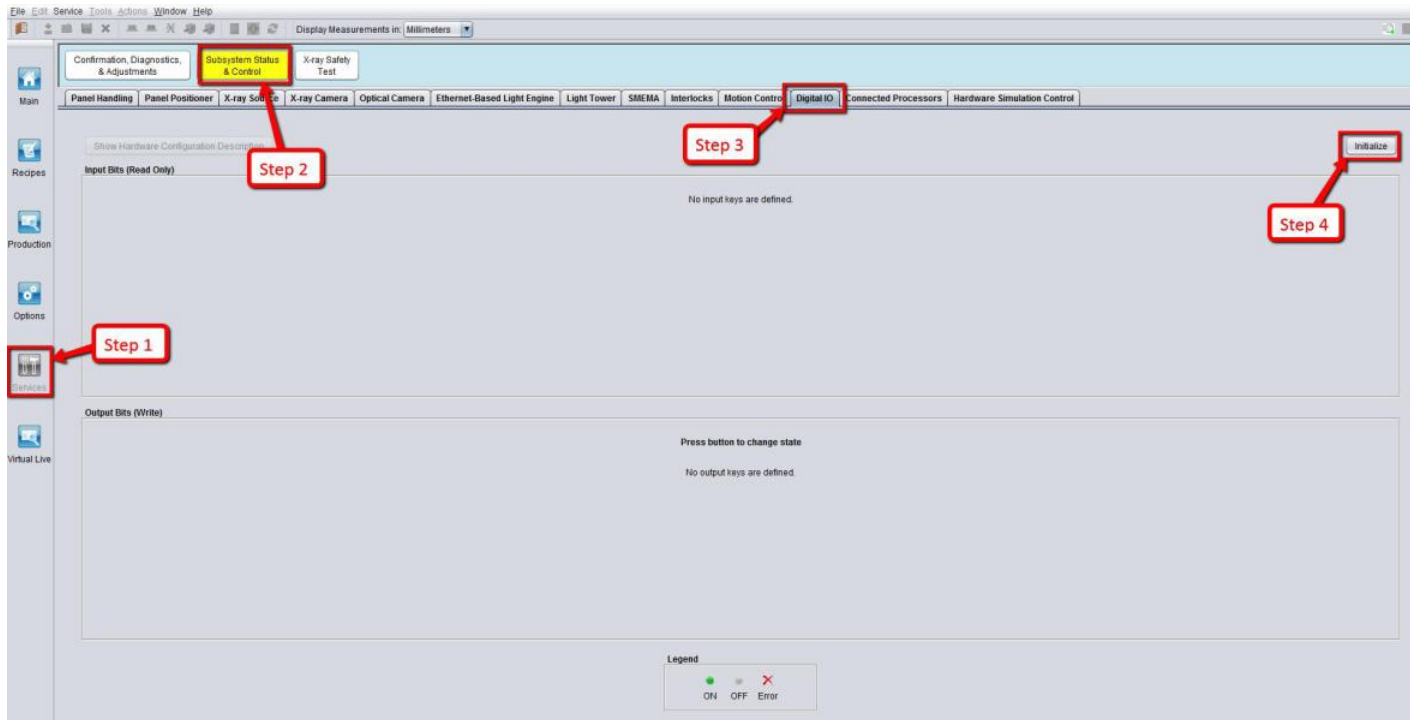

Figure 5 Digital IO Initialize
6. Enable “Stage Belts Direction Right To Left” as shown in Figure 5. Visual check Belt Turning Direction.